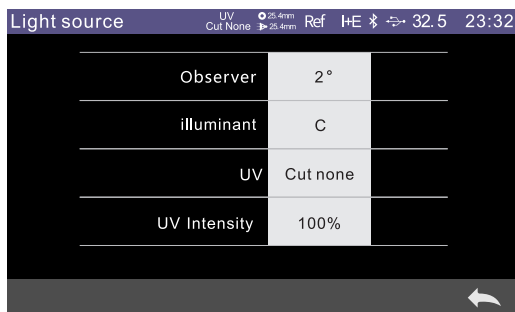

Figure 22 Light source settings
- (8) Sample measurement mode: it is able to choose SCI, SCE, or I + E , If set only SCI or SCE , the switch cannot be performed
- (9) Display mode: click  or  to switch the current mode of data display. Opacity measurement mode : click  or  to switch for data display.
- (10) Name of standard sample: showing the name of the current tested sample. Click to modify quickly.
- (11) Switch to sample measurement: click  to enter the sample measurement interface.
- (12) Data switching: click  switch to the previous set of data,click  switch to next set of data.
- (13) Spectrum display : click  to check current spectrum data.
- (14) Color space: by clicking the shortcut key, the current test data can be quickly switched between CIE Lab, CIE XYZ, CIE Yxy, CIE LCh and other color spaces.
- (15) Camera locating: click  to view the position of the object to be measured at the reflective measurement aperture
- (16) Wavelength switch button: Click  or  button to switch the wavelength of the light wave, the reflectance of the sample and the reflectance difference of the tested sample at the interval of 10nm, as shown in Figure 22.
Menu→Light source, Enter the interface as shown in Figure 22, click " ✓ " to confirmation.